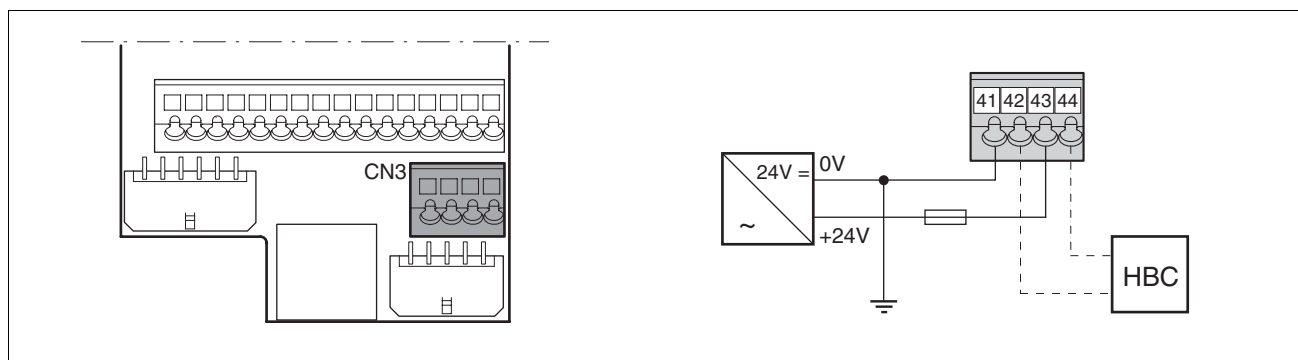

Figure 6.16 Controller supply voltage wiring diagram
- Terminal CN3, pin 42 and 44 (see Figure 6.16) can be used as a 0V/24V terminal for additional consumers. Note the maximum terminal current, see Technical Data, from page 3-1.